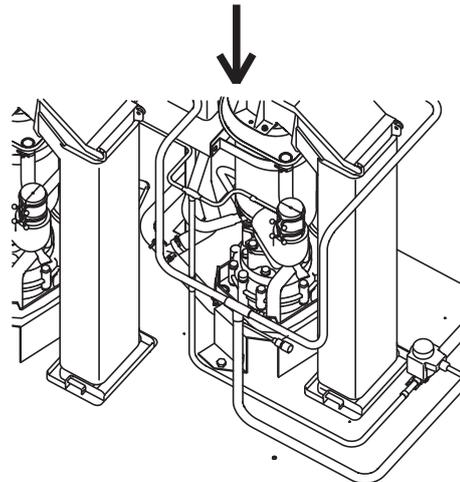

Fig. 8
1) If suction pressure of the condensing unit exceeds 0.10 MPa (1.05 bar), remove the EPR (evaporating pressure regulator) from the suction line. See Fig. 8.